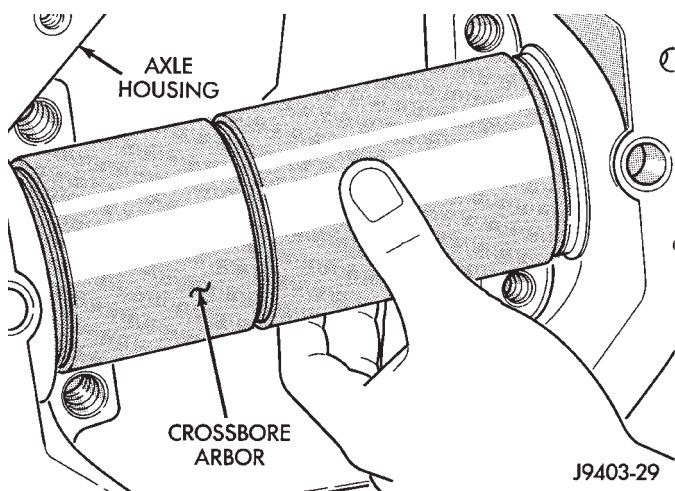

Fig. 71 Crossbore Arbor
(19) Position Crossbore Arbor SP-6029 in the differential housing (Fig. 71).